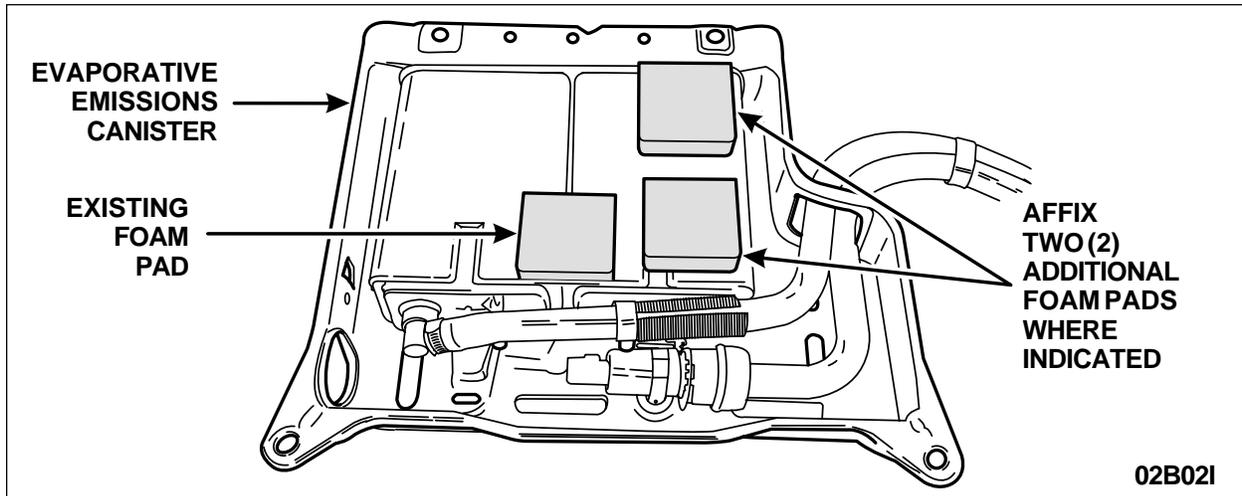

FIGURE 9
11. Remove the one (1) bolt and the two (2) evaporative emissions canister retaining nuts and lower the canister off of the studs and disconnect the canister purge valve electrical connector.
12. Remove and **discard** the two (2) J-nuts from the evaporative emissions canister flange.
13. Using Motorcraft Brake Parts Cleaner or equivalent and a clean shop rag, clean the top surface of the canister. Affix the two (2) self-adhesive foam pads onto the canister in the position shown in the illustration. See Figure 9.